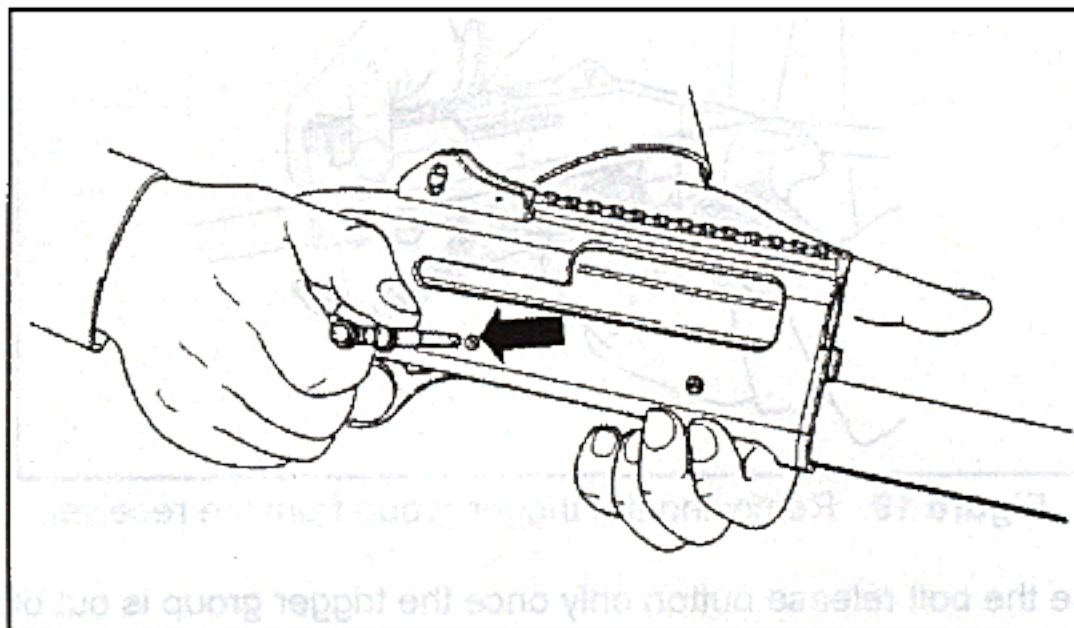

Figure 18. Removing the trigger group locking pin using the bolt handle
8. **Remove trigger group pin** – Use the small and large ends of the bolt handle as depicted below to partially push the captured trigger group locking pin out of the receiver from right to left. This pin will be retained in the receiver to prevent its loss (**Figures 18 and 18a**).